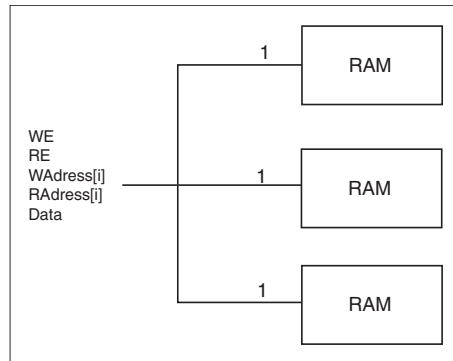
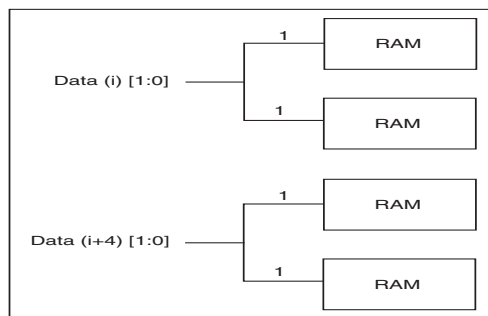

Figure 12-2. Manual Buffering (96x8 RAM Configuration)
Figure 12-3. Manual Buffering for the Data Bus (128x8 RAM Configuration)
Figure 12-2 shows how manual buffering is done. A fan-in of one (1) is enforced on all signals fanning out to more than one RAM cell. If these signals were broadcast to all RAM cells, very slow routing resources (long freeways) would be required to route the signals impacting the RAM performance.
Use Manual Buffering only if the expected performance is not realized using the automatic buffering scheme, or if you know ahead of time that you need to use this scheme to meet your timing goals. In this architecture, the idea is not to buffer the signals internally but rather give some kind of access to the RAM core internal signals. Then, you must buffer the signals outside the core and either use traditional buffers or duplicate the logic that drives these signals externally. If you choose manual buffering, the *WE*, *RE*, *Waddress(i)*, *RAddress(i)* and *Data[i]* signals become busses external to the core. For all these signals, the bus width is equal to the number of RAM cells (used to build a given configuration) driven by each signal. Figure 12-2 illustrates the manual buffering architecture for a 96x8 RAM configuration, built of three 32x8 configured RAM cells. In this configuration, the *WE*, *RE*, *WAddress* and *RAddress* signals drive all RAM cells simultaneously. Figure 12-3 shows a 128x8